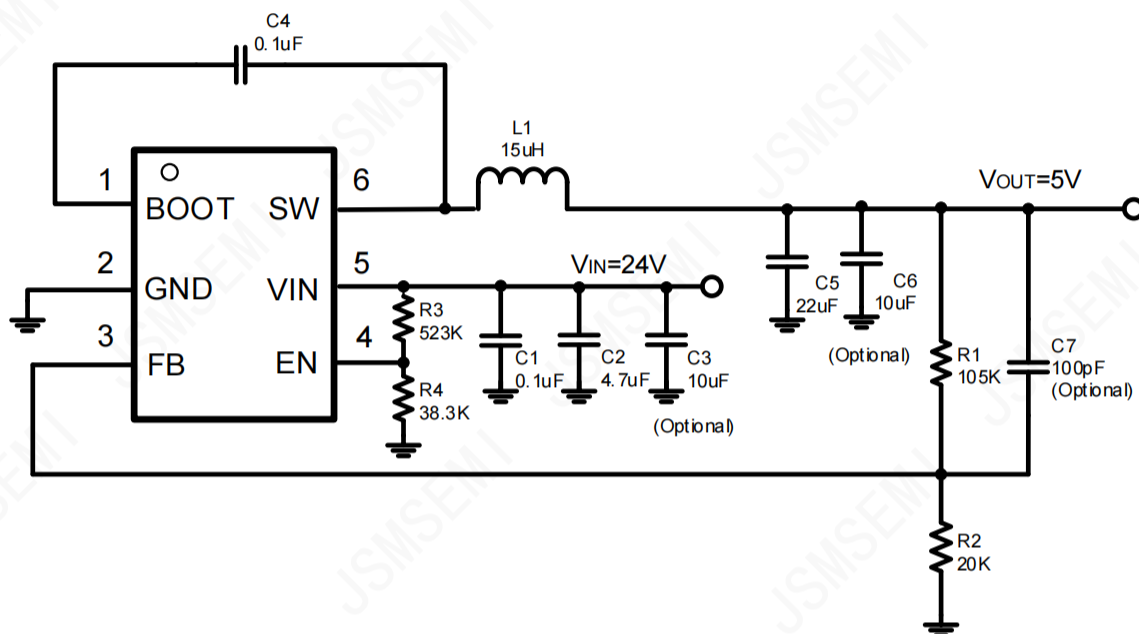
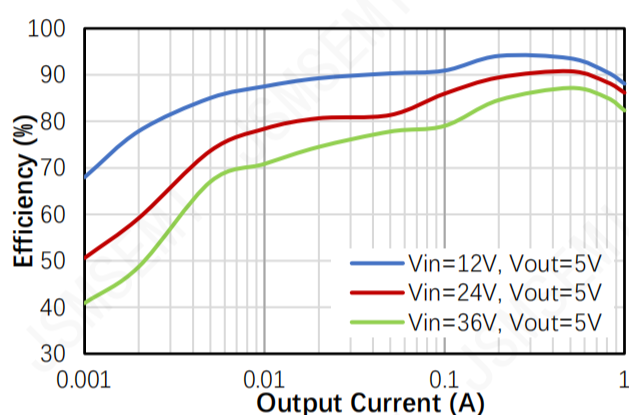
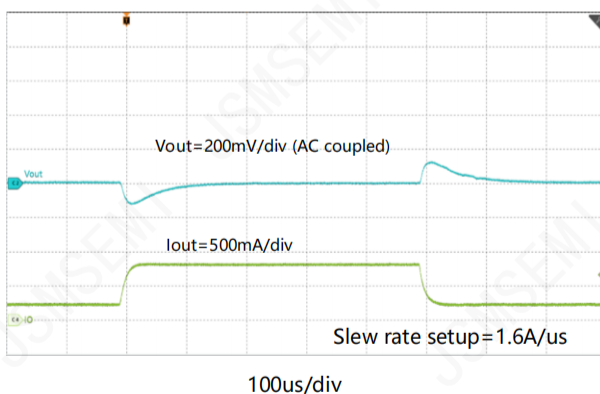

Figure 9. 24V Input, 5V/1A Output
Figure 10. Power Efficiency
Figure 25. Transient Response 0.2A-0.8A
The SGM61410 output voltage can be easily set up using a resistor divider network R1 and R2 as shown in the typical application circuit Figure 9. Use Equation (4) to calculate the resistor divider values.
Figure 10 through Figure 25 apply to the circuit of Figure 9. $V_{IN} = 24\text{ V}$, $T_A = 25^\circ\text{C}$ unless otherwise specified